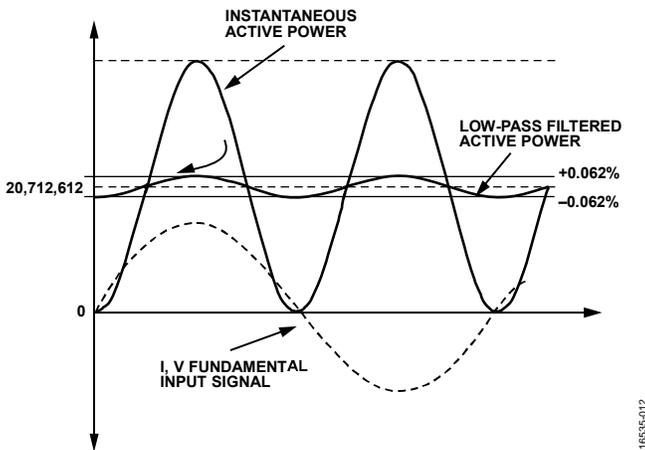

Figure 13. Instantaneous Active Power and Low-Pass Filtered Active Power at a Power Factor of 1
Figure 13 shows the relationship between the current (I) and voltage (V) input signals, as well as the instantaneous active power and low-pass filtered active power, assuming that I and V are at full scale with only the fundamental present and a power factor of 1.
If the DISAPLPF bit in the CONFIG0 register is equal to 1, AWATT reflects the instantaneous active power; if DISAPLPF is equal to 0, AWATT reflects the low-pass filtered active power, assuming APGAIN = 0 and AWATTOS = 0 (see Figure 13).
The fundamental reactive power at a power factor of 0 has a similar ripple to the total active power at a power factor of 1 (see Figure 13).